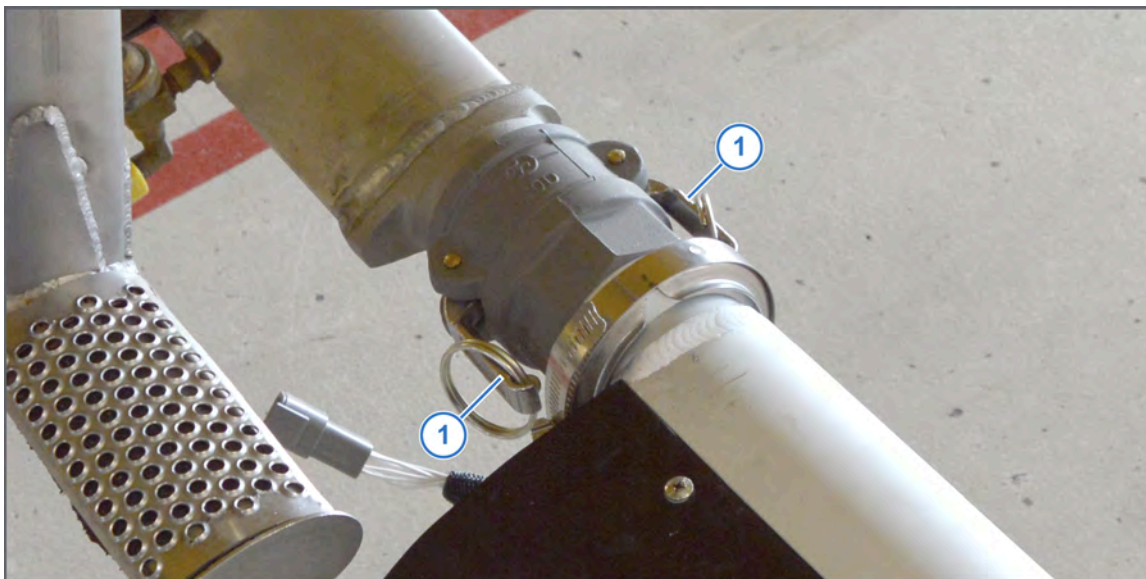

Figure 12: Do a Check of the Camlock Tension
24. Loosen and tighten the handles (Figure 12, Item 1) on the camlock to make sure that both handles have the same tension.